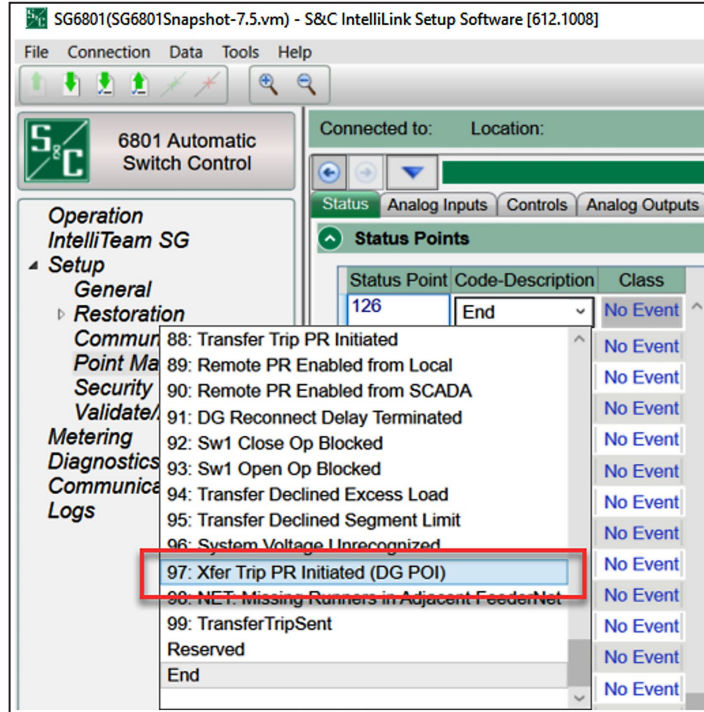

Figure 12. Mapping the Transfer Trip PR Initiated (DG POI) status point.
STEP 4. If the receiving device is teamed with a distributed generation point-of-interconnect, go to the *Setup>Point Mapping>Status* screen and configure the **Transfer Trip Prohibit Restoration Initiated** DNP status point. This point is active when the **Initiate Transfer Trip** command is received and executed by a device teamed with a distributed generation point-of-interconnect device. See Figure 12.